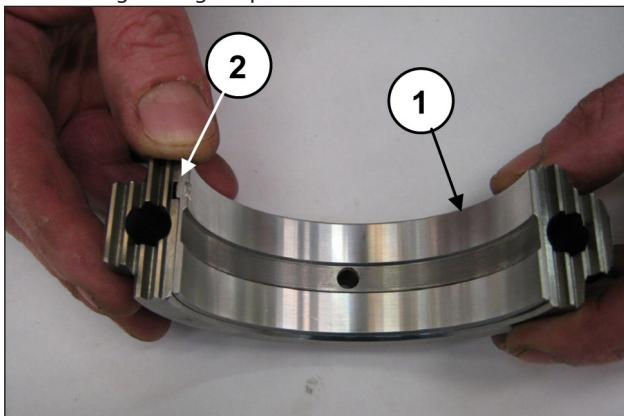
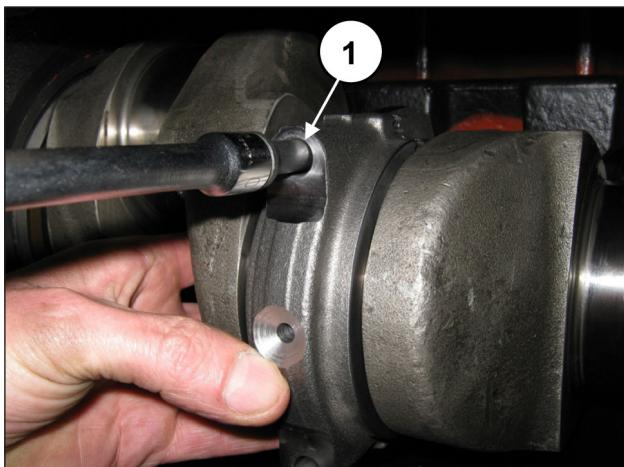

Fig. 67
Fig. 68
Apply the lower half-bearings to the caps (pos. ①, Fig. 67) ensuring that the half-bearing reference notches are positioned in their housing on the cap (pos. ②, Fig. 67). Fasten the caps to the half-conrods by means of M10x1.5x80 screws (pos. ①, Fig. 68).